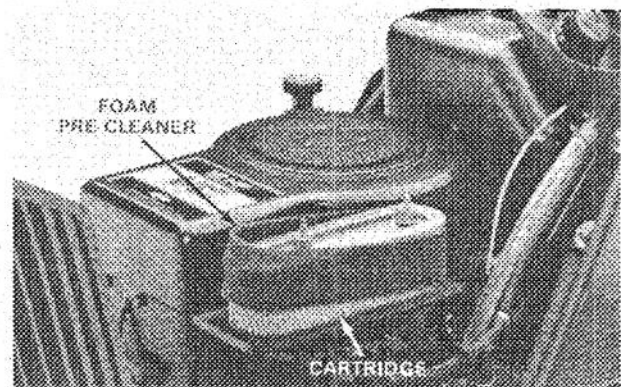

Figure 17
4. Remove (2) nuts from top of cartridge (Fig. 17).